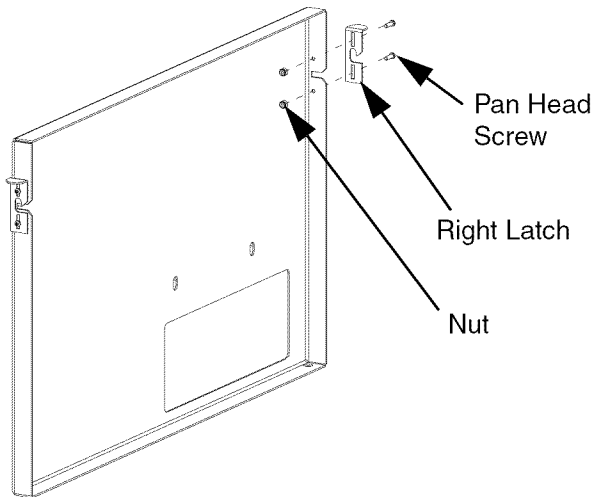

Figure 7
6. Attach Left [D] and Right Latch [E] to Backing Plate [F] with four 10-32 x 5/8 Panhead Screws [M], and four 10-32 Nylock nuts [N]. As shown in Figure 7 on the next page.